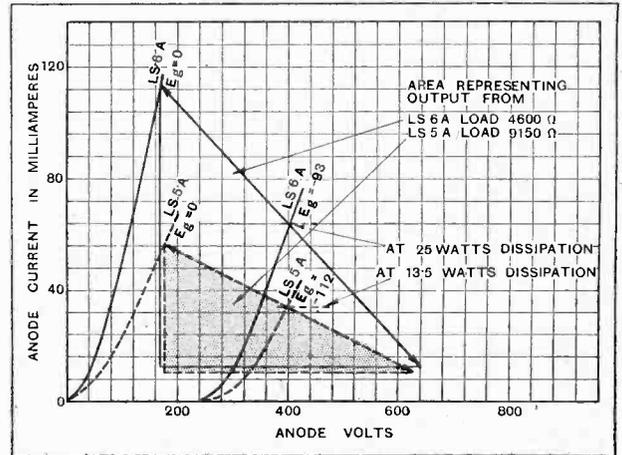

Fig. 3.—Comparative outputs from L.S.5A and L.S.6A valves at an anode voltage of 400.
thought worth while to make a few measurements to indicate the order of amplification to be anticipated with tuned circuits of various types. The circuit employed for the purpose is shown in Fig. 3, particulars of the chief components used being given below the diagram. All measurements were made at approximately 300 metres, and the anode voltage used was 150 throughout, the screen-grid voltage being adjusted for maximum amplification with each tuned circuit. Throughout the series it was found necessary to keep the screen-grid at a voltage in the immediate neighbourhood of 60 for best results.
(1) Coil L (Fig. 3) of 68 turns of 27/42 Litz on 4in. ribbed ebonite former; detector (voltmeter) valve shunted across the tuned circuit decapped to minimise dielectric losses. Amplification, 188-times.
(2) Coil of 80 turns of 27/42 Litz on 3in. ribbed ebonite former; detector valve still decapped. Amplification, 161 times.
(3) Coil as in (2), but valve-holder and valve-base shunted across tuned circuit to represent, with the decapped valve, a valve with cap and holder, as usually employed. Amplification, 131 times.
(4) Multi-layer coil (Gambrell B), with valve-holder and base in position as before. Amplification, 59 times.
Fig. 3.—Circuit used in measuring amplification at 300 metres. V₁, Mazda 215 S.G. valve under test. V₂, Decapped valve in Moullin voltmeter measuring voltage across tuned circuit. H.F.C., Lewcos High-frequency choke. C, 0.001 mfd. L, Tuning coils—see text.